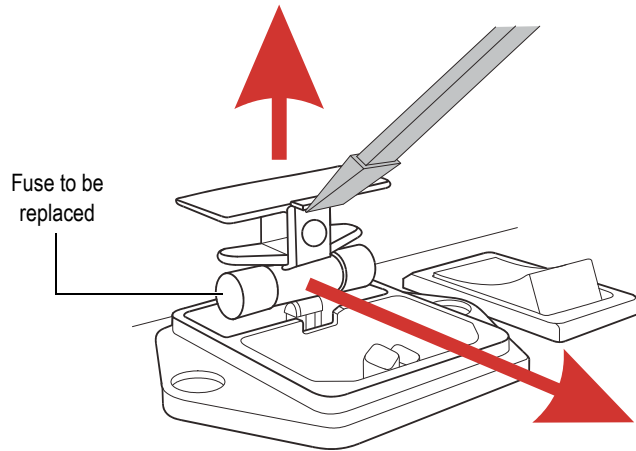

Figure 6-1 Changing the fuse in the OmniScan *iX*
2. Using a flat-head screwdriver, remove the fuse holder (see Figure 6-1 on page 59).